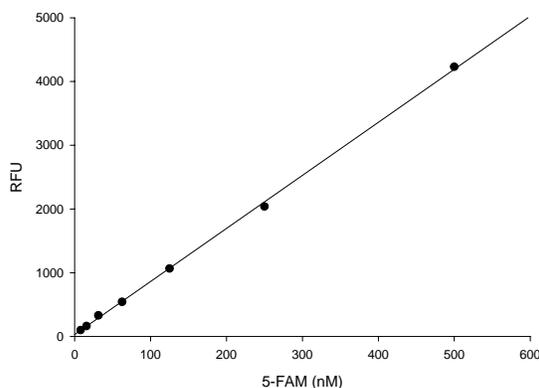

Figure 3. 5-FAM reference standard.
- Plot 5-FAM fluorescent reference standard as RFU (relative fluorescent unit) versus concentration as **Figure 3**.